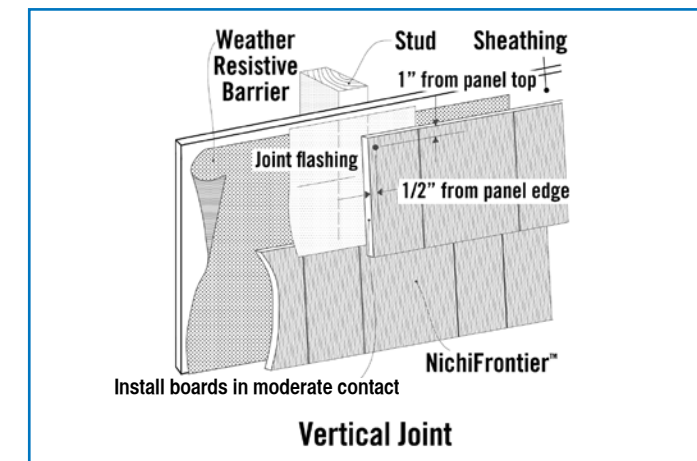

Fig. 10.3
- The use of a joint flashing behind the butt joints is **required**. (Fig. 10.3)